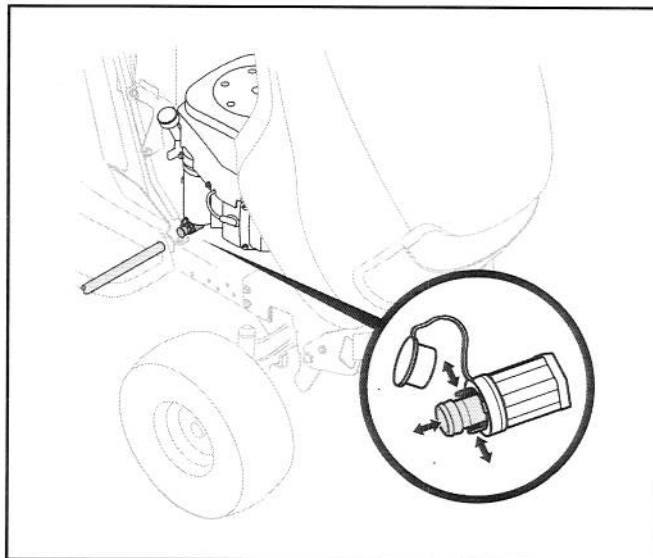

Figure 16
1. Pop open the protective cap on the end of the oil drain valve to expose the drain port. See Figure 16 .
4. Pinch the tabs on the oil drain valve, then pull outward to begin draining oil. See Figure 16 .